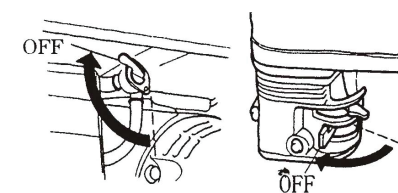

Figure 36
5.2.4 Set the fuel switch to OFF position (Figure 36)